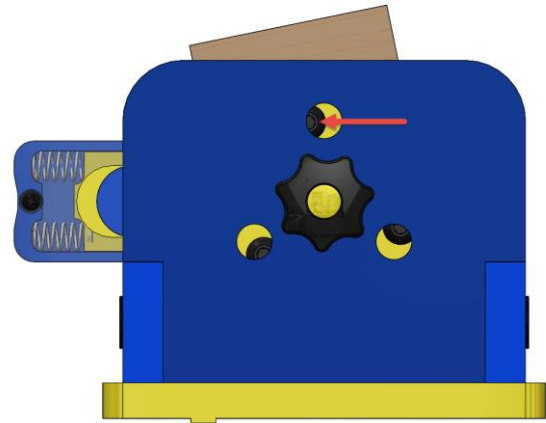

Figure 3
- 2) Remove 6 bolts from rear of the driving and driven sides using a 4mm hex key. The trunnion must be rotated such that the bolts are exposed through their respective access holes (Figure 3).